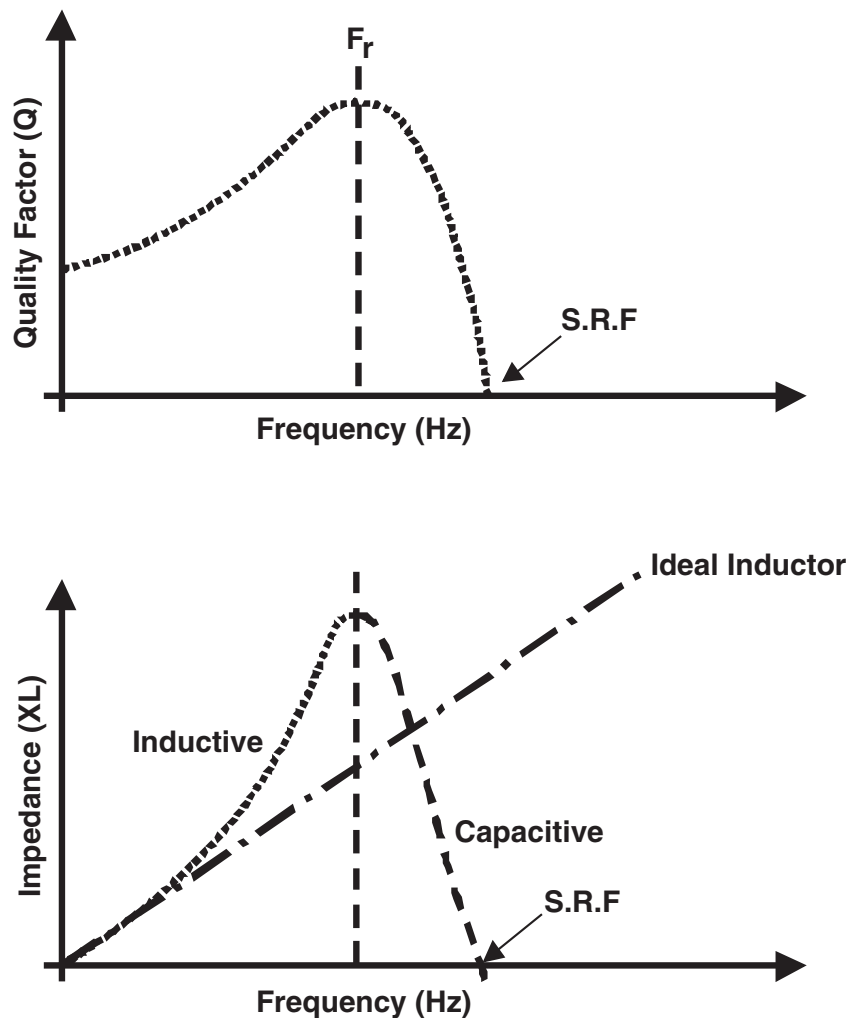

Fig. 2.0 Impedance and Inductance Characteristic of a Real World Inductor
The effect of Cd can have a dramatic effect upon the impedance of the inductor as illustrated in Fig 2.0, because "fringe" effects become dominant at high frequencies. At low frequencies the inductor's reactance parallels that of an ideal inductor. With increasing frequency the reactance of the inductor departs from the ideal curve and increases at a much faster rate until it reaches a peak value at the inductor's parallel resonant frequency ( $F_r$ ). Above  $F_r$  the inductor's reactance begins to decrease with increasing frequency and thus the inductor begins to look like a capacitor. The series resistance ( $R_s$ ) of the coil prevents the impedance of the inductor from reaching infinity at resonance ( $F_r$ ). Another effect of  $R_s$  is to broaden the resonant peak of the impedance curve at  $F_r$ .
At low frequencies, the Q of an inductor is very good because the only resistance in the winding is the dc resistance of the wire which is very small (Fig. 2.0). As mentioned earlier, as the frequency increases, the skin effect increases to degrade the Q of the inductor. At low frequencies, the Q increases directly inline with the reactance (XL) since the skin effect has not become noticeable. The Q continues to rise, but as the frequency approaches Fr, the skin effect starts to become a dominant, reducing the rate of increase. At Fr, the series resistance and reactance are increasing at the same rate. Above Fr, the distributed capacitance Cd and skin effect of the winding combine together to decrease the Q of the inductor to zero at SRF.